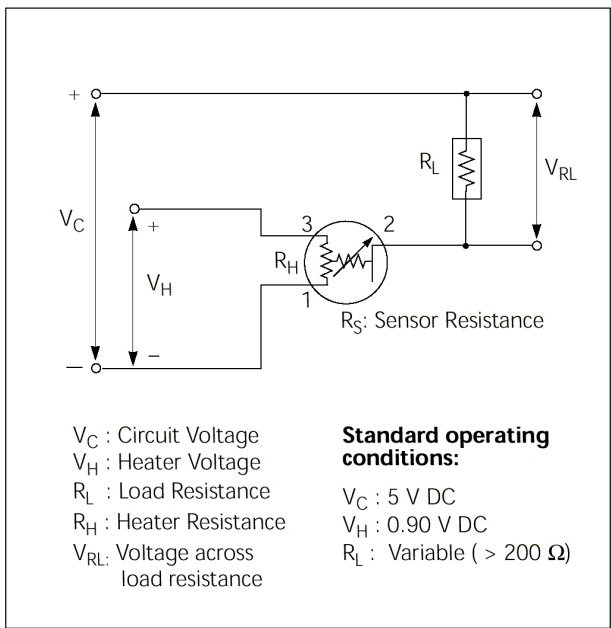

Figure 3. Gas sensor excitation circuit (from FIS)
4. Connect the load resistor R_L ($2k\Omega$) in series with the sensing element. Pin S1 on the 11-pin connector is directly connected to the sensing element (pin 2 in Figure 3).